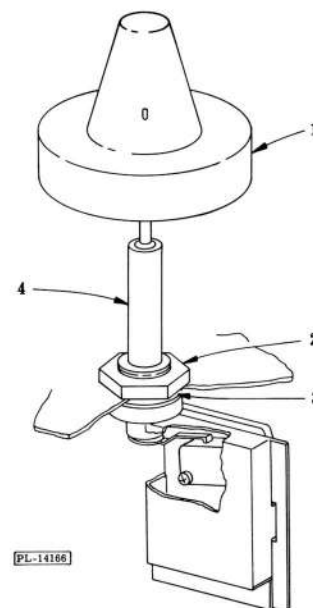

Fig. 23
Overfill Protection Float Standpipe (Fig. 23)
2. Remove overfill control float (1, Fig. 23).
3. Remove standpipe nut (2, Fig. 23) from inside tank.
4. Remove standpipe (4, Fig. 23) and gasket (3, Fig. 23) from beneath tank.
6. Using a tool, securely tighten standpipe nut (2, Fig. 23).